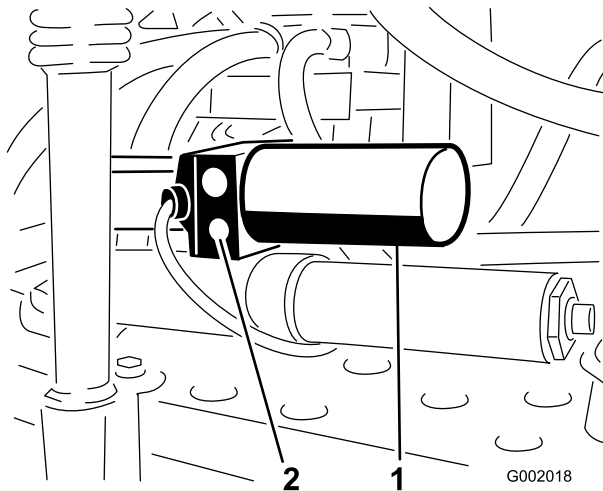

Figure 74
1. Locate the manual relief valve on the actuator for each boom. The manual relief valve is the smaller valve and is only on one side of the actuator body (Figure 74).